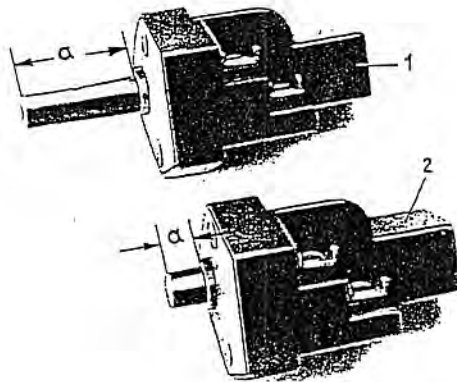

Fig. 25-10/12
The servo assembly incorporates a limit switch (6) (Fig. 25-10/10), which brakes the circuit to the relay of the solenoid in the control element when the mechanical clutch is engaged. In the first version the length of the pin of the limit switch is $a = 27$ mm, in the second version $a = 10.5$ mm (Fig. 25-10/12). The second version limit switch may only be installed together with a control element Part No. 000 250 02 60.